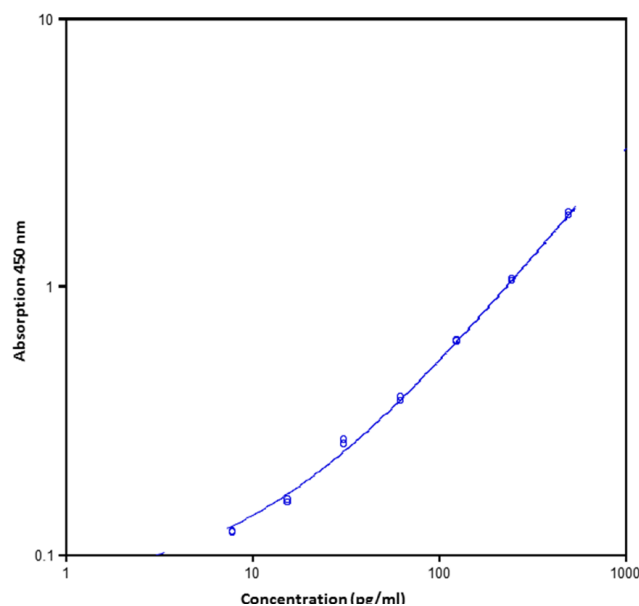

Fig. 8 Representative standard curve for Human IL-31 ELISA Kit. Human IL-31 was diluted in serial 2-fold steps in Calibrator Diluent.
- A representative standard curve is shown in Figure 8.